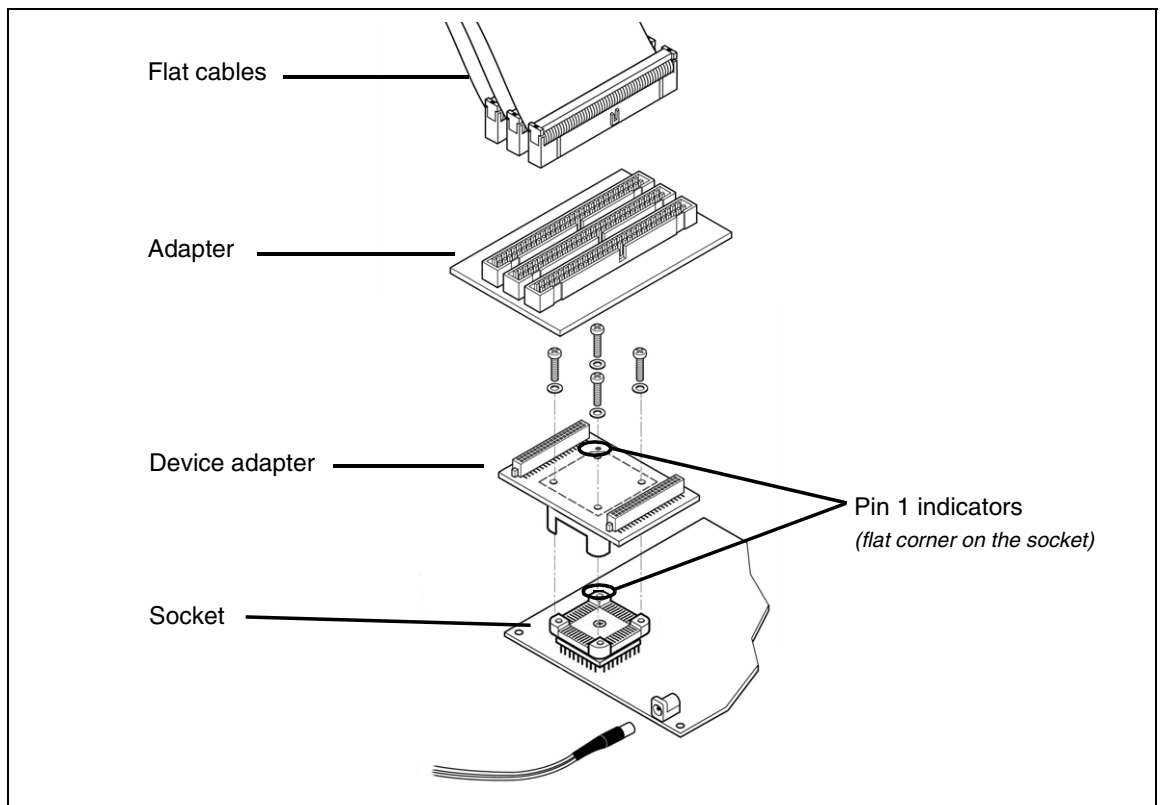

Figure 9: Connection for TQFP64
- 3 Connect the other end of each of the three 50-pin flat cables to the TQFP80/64/44 adapter (ref.: DB543), as shown in Figure 9.
- 5 Fix the device adapter (ref.: DB531) to the socket soldered on your application board using the provided screws (see Figure 9). Ensure that the device adapter's pin 1 indicator is aligned with the socket's pin 1 indicator.
- 6 Connect the adapter to the device adapter as shown in Figure 9.